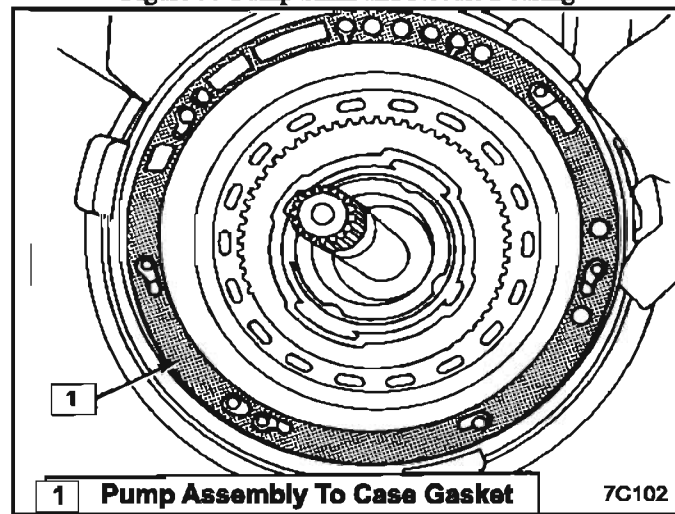

Figure 96 Pump Gasket
2. Install new pump assembly to case gasket. *See Figure 96.* Before installing pump lubricate case bore.